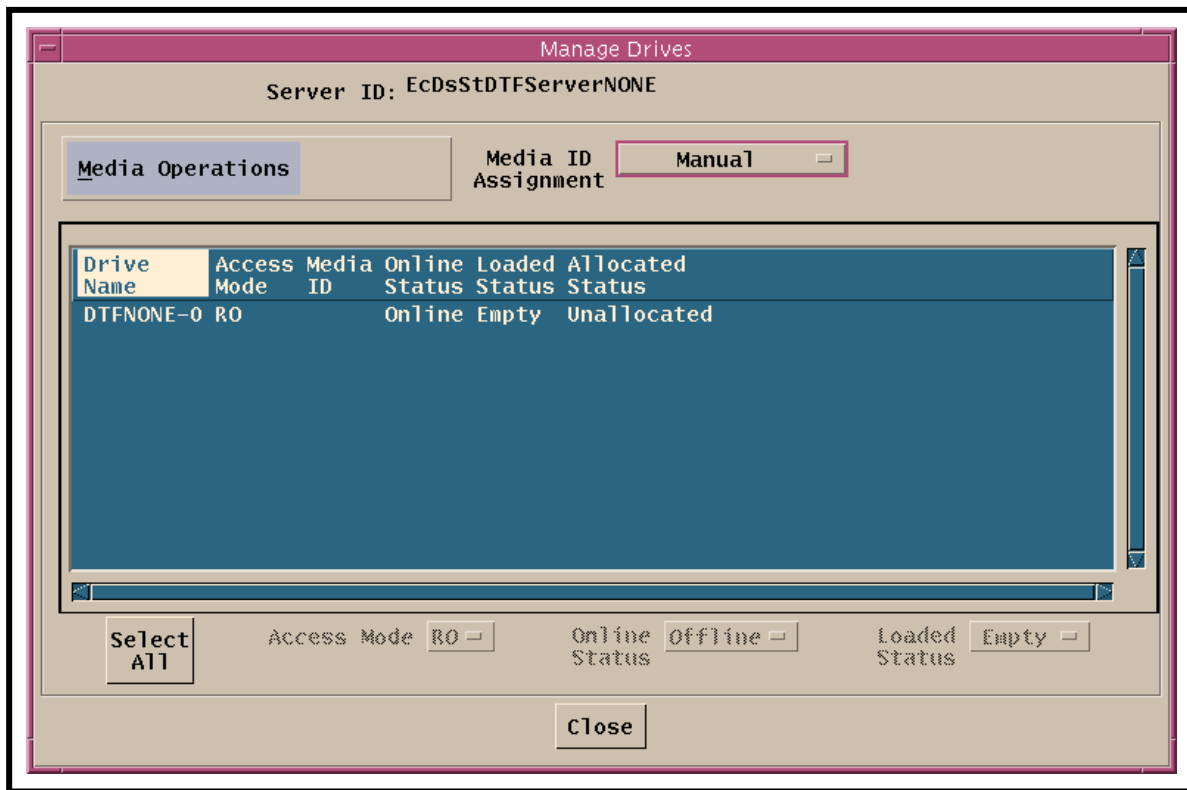

Figure 27. Manage Drives Window
- The **Manage Drives** window (Figure 27) is displayed.
- 11 Verify that the **Media ID Assignment** button on the **Manage Drives** window (Figure 27) is set at the **Manual** option.
- If necessary, click and hold the **Media ID Assignment** button on the **Manage Drives** window (Figure 27) to display a menu of media assignment options, move the mouse cursor to the **Manual** option (highlighting it), then release the mouse button.
- The **Manage Drives** window (Figure 27) is dismissed.